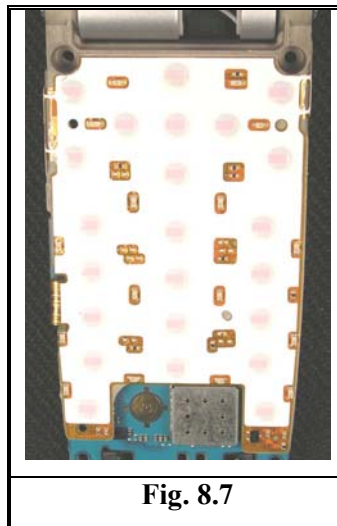

Fig. 8.7
- Check if the entire 18 key LED's are lighting in the same strength. Replace the key dome (Fig. 8.7) if necessary.